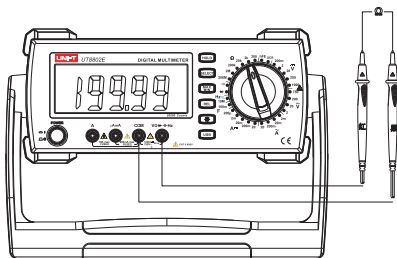

Figure 4
4.Measurement of Resistance (see Figure 4)